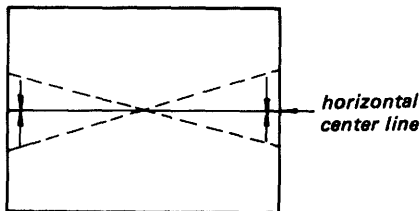

Figure 2
- 2) Turn the deflection yoke (green) so that the crosshatch pattern horizontal center line is level as shown in Figure 2